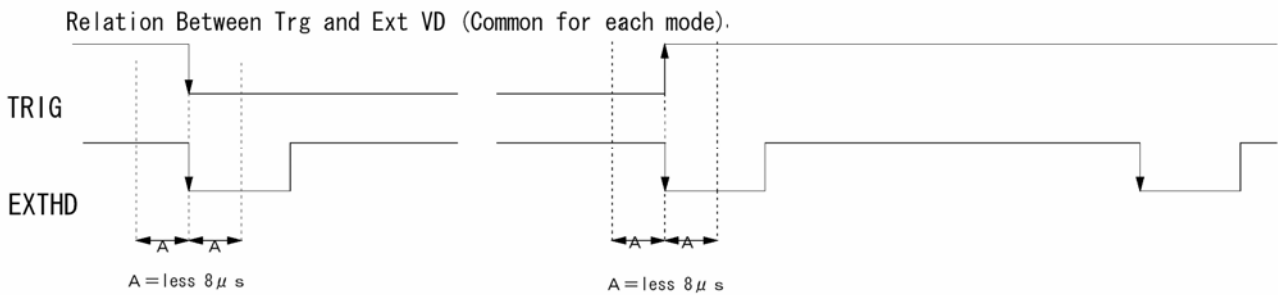

Fig. 18. Extern Trigger/HD Timing requirements.
The accumulation is HD synchronously accumulation. The accumulation starts at the first HD after the trigger leading edge. To avoid the $<1H$ jitter caused by this delay, synchronize the external trigger falling and rising edge to HD as shown in fig. 18. below. The trigger level translations should be placed inside A. $2 \times 8 \mu\text{seconds}$.
- The start of exposure will start synchronized to the internal H signal. The start may be shifted max 1H. To avoid this shift (1 H jitter), synchronize the camera to an external HD and make sure that the trigger pulse aligns to the HD as shown in fig. 18.
- With HC=0 the start of exposure will start synchronized to the internal H signal. The start may be shifted max $1H$. To avoid this shift ($1H$ jitter), synchronize the camera to an external HD and make sure that the trigger pulse aligns to the HD as shown in fig. 18. With HC=1 the exposure will start immediately.
- The exposure will start synchronized to the internal H signal, the start of exposure may be shifted max $1H$. To avoid this shift (jitter), synchronize the camera to an external HD and make sure that the trigger pulse aligns to the HD as shown in fig. 18.